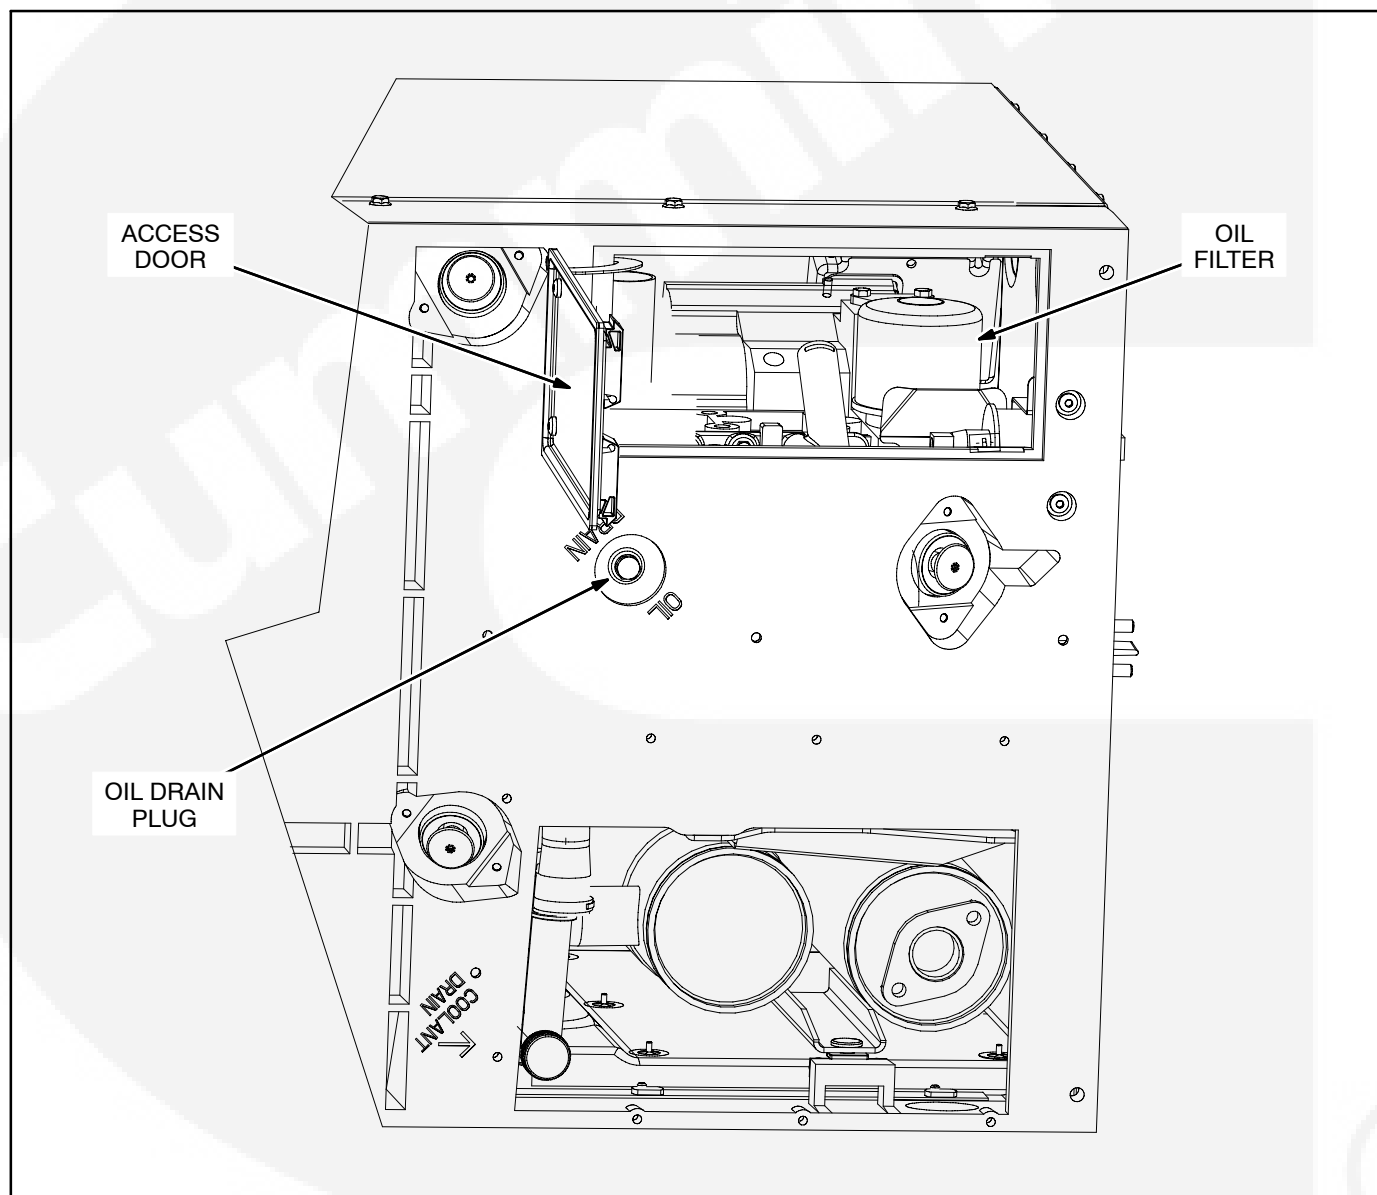

FIGURE 5-2. OIL DRAIN PLUG AND OIL FILTER
3. Unscrew the oil drain plug (Figure 5-2) and allow all of the oil to drain from the engine.
5. Squeeze the access door latches together and let the door swing down (Figure 5-2). Spin off the oil filter canister, drain it of oil and discard it according to local regulations.